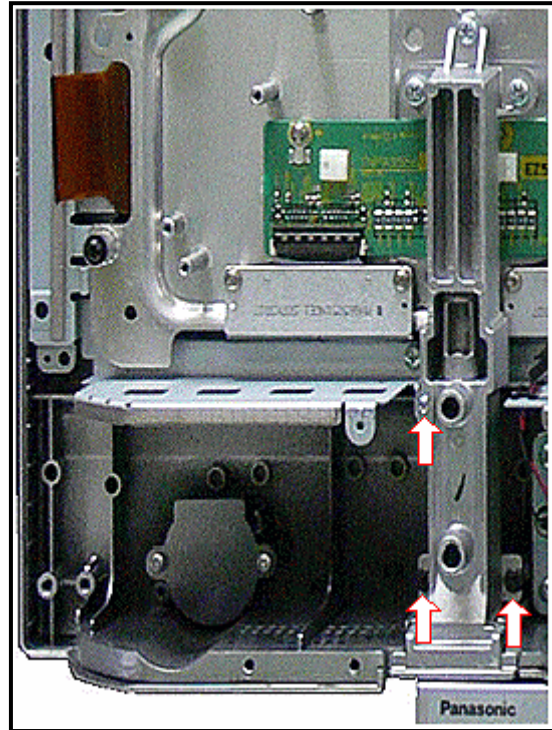

Figure 26. Left Stand Bracket
5. Remove the three screws of the left stand bracket as indicated in figure 26.